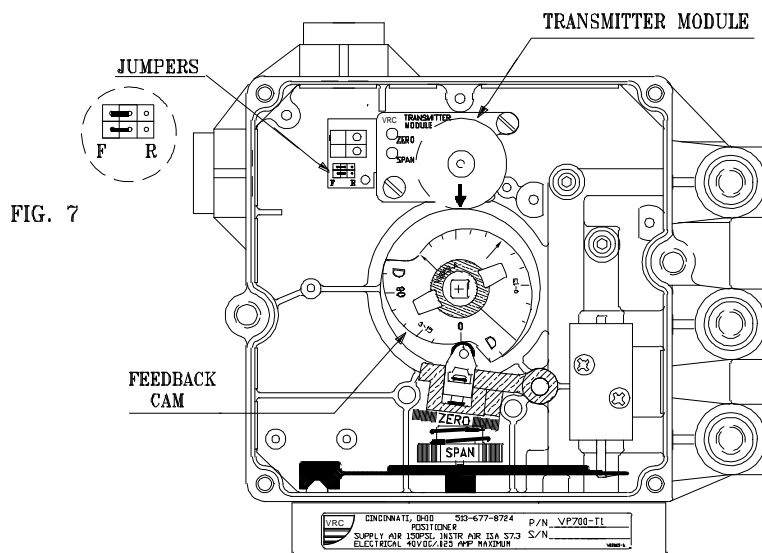

FIG. 7
1. Reference figure 7.
4. Before completely tightening the (2) captive fasteners, push the MODULE toward the MAIN SHAFT to fully engage the two gears. A loose engagement of the two gears will cause poor MODULE performance. Tighten the fasteners when the gears are fully engaged. **DO NOT OVERTIGHTEN.**